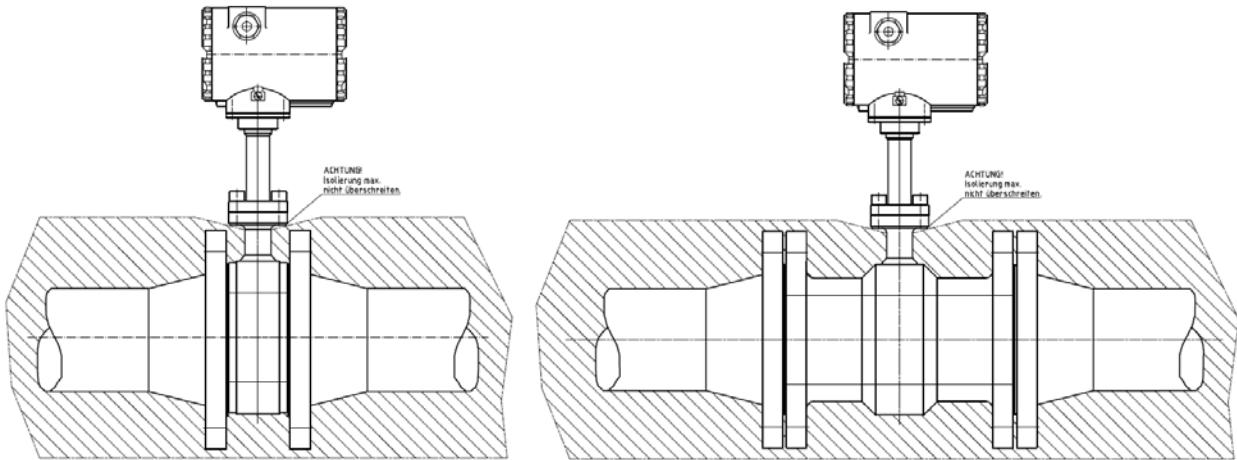

Fig 2.1: Insulation in hot media
- If the pipeline with the vortex meter is integrated into a heat insulation, it must be ensured that the electronics remains free and the spacer tube protrudes at least half of the insulation (see Figure 2.1).